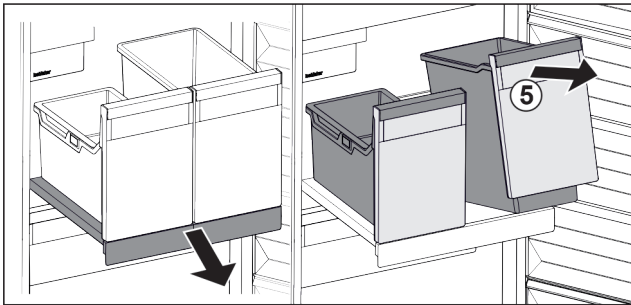

Fig. 30
- ▶ Lift the container Fig. 30 (5) at the front.